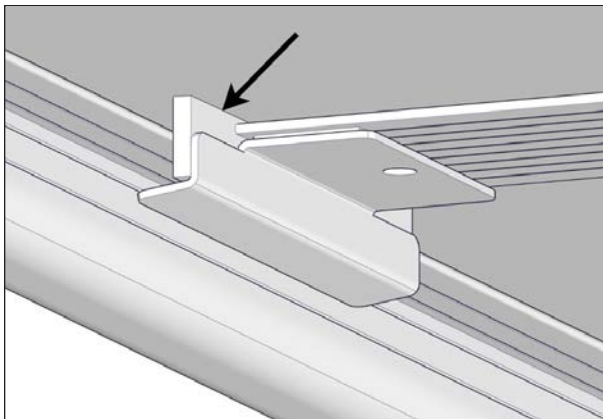

FIGURE 100: FINAL POSITION OF THE WIPER
At the final position of the wiper, the flap must touch the edge of the I-beam see Figure 100.
- Stick the wiper bracket on the middle of the I-beam by holding it in place and maintaining pressure for at least 60 seconds. This ensures a proper bond to the I-beam. Make sure you install the wiper flap at the edge of the I-beam directly into the gap between the I-beam and the C-channel, see Figure 100.